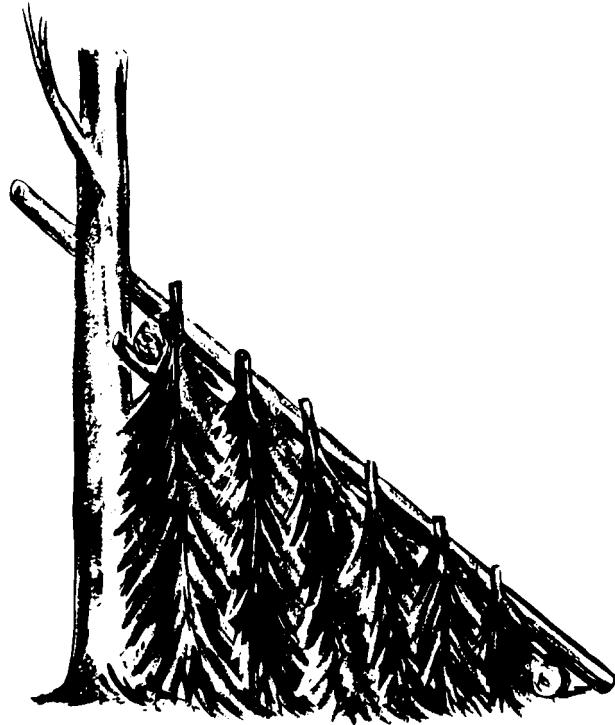
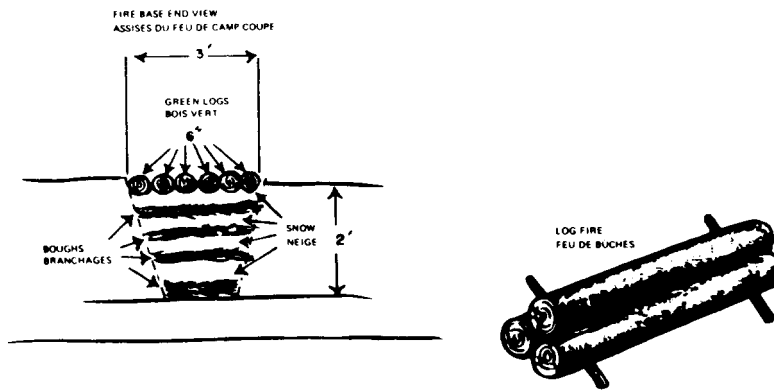

Figure 3-9 Single Lean-to Side View - Stage 3
Figure 3-10 Fire Base and Log Fire
- g. Close in the sides of the lean-to. The most common method is to cut short trees or to use the tips of large trees, lean these against the sides of the lean-to with the cut or butt end up (see Figure 3-9).
- (1) place short green logs on the ground to hold your fire up for better draft;
- (2) take two dry logs at least the length of the lean-to and eight to fifteen inches thick and place these over the top of the smaller green logs;
- (3) place a green log the same size on top of and in the centre of the two dry logs;
- (4) fire is started in several places to help it spread the entire length of the logs. For better burning the log surfaces facing each other should be chipped (see Figure 3-10);
- (5) if the fire is built on top of deep snow, it will only sink down and go out. To prevent this, build the fire on a fire base. The fire base must be as long as the fire (see Figure 3-10);
- (6) if using smaller dry logs, the tendency for troops who first start living in a lean-to is to underestimate the amount of firewood that will be required to keep a fire burning all night. As a rule of thumb, gather the amount of firewood that you estimate you will require and then triple this amount.